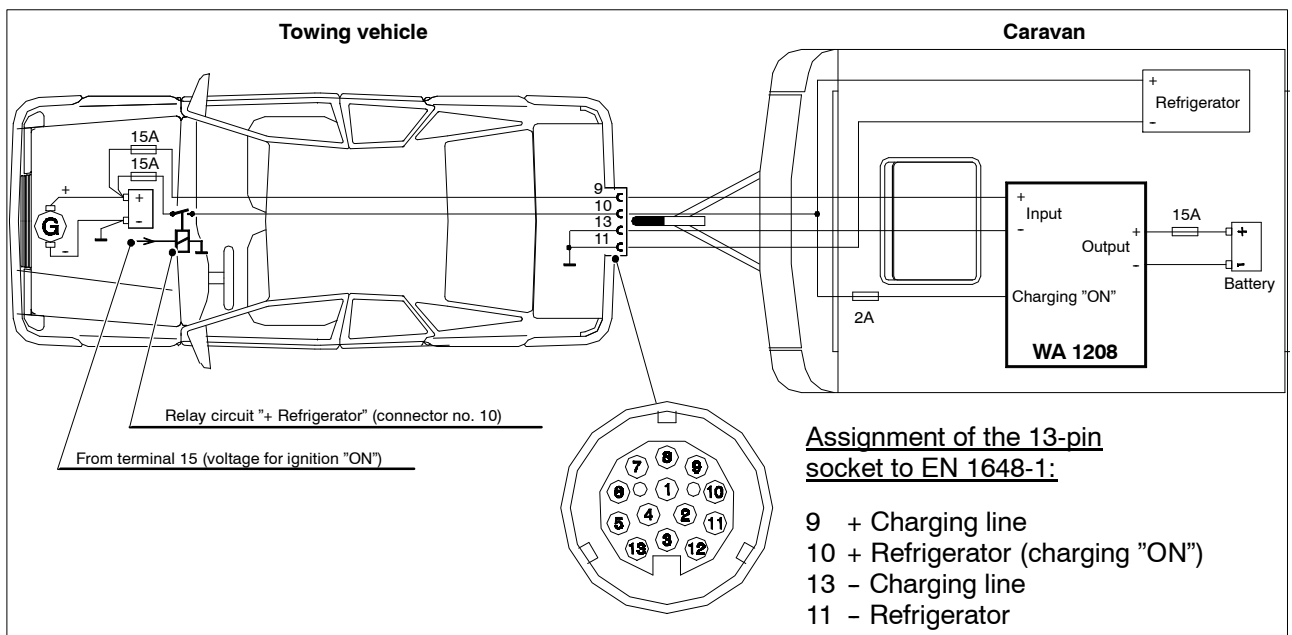

Fig. 2 Block diagram of WA 1208 connection
To prevent damage in the event of a fault, fuses must be inserted as in Fig. 2 depending on the cable cross-section (EN 1648-1 and 2).
2. Establish the electrical connections as in Fig. 2. Note: